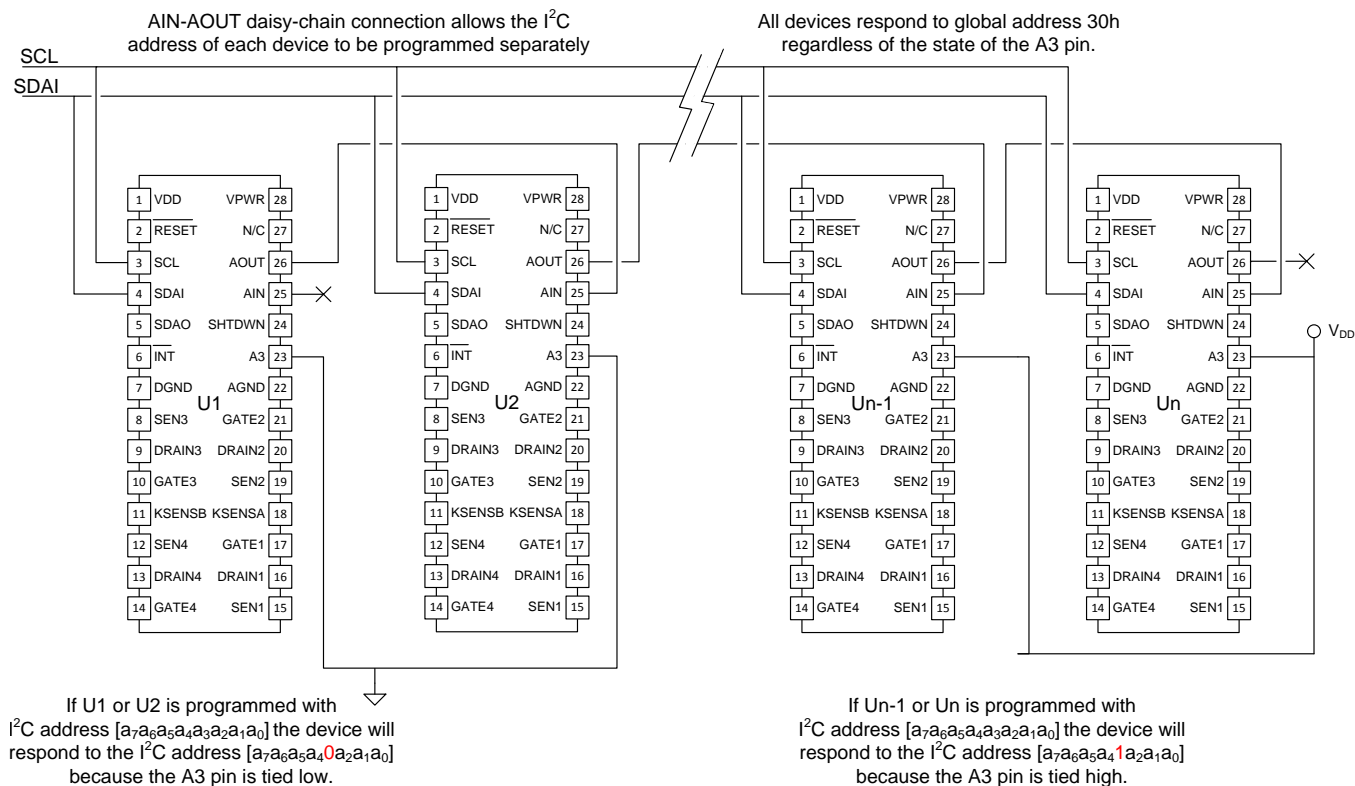

Figure 39. I²C Slave Address and AUTO Bit Programming Circuit
As shown in Figure 39, the initial I²C address programming access is established by a local daisy chain *chip select* connection between multiple TPS23861 devices. Note that the AIN pin plays the role of a “moving chip select” during address programming.
- The first TPS23861 device being selected is the only one having its AIN pin at logic high level (U1 in Figure 39).